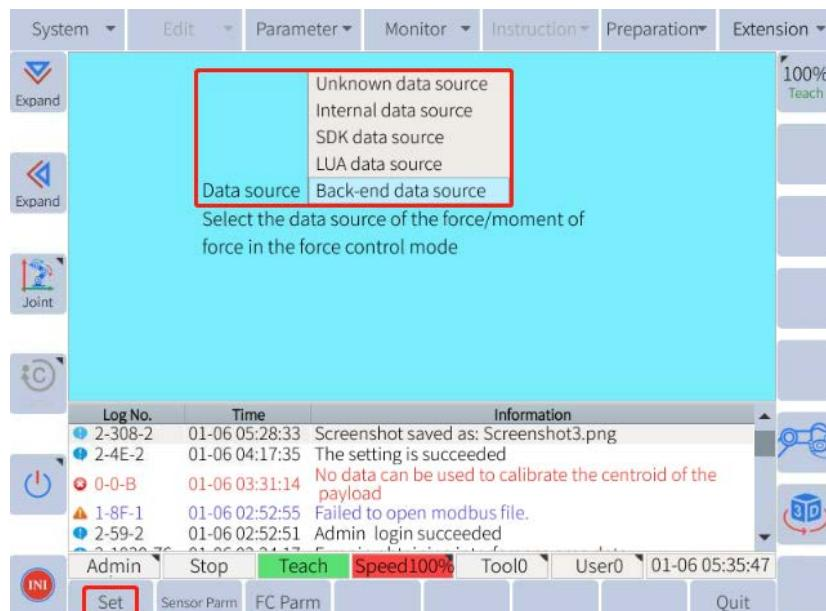

Figure 6-28: Selecting the data source
- Users can click **Extension>Forcecontrol** to select the data source. When selecting "Unknown data source", the force control mode will be disabled. When selecting "Internal data source", it indicates that the internal estimated force/moment of force is used. When selecting "LUA data source", the force control data received by the parsed RS485 communication is transferred via the LUA interface, when selecting "SDK data source", the parsed force control data is transferred via the SDK interface. Users can edit the "Data intervals" (data entry period, unit: ms) and "Tolerance" as required. We recommend to set the product of "Tolerance" and "Data intervals" to 1000. Please note that errors may occur if the actual interval exceeds the product of "Tolerance" and "Data intervals". When selecting “Back-end data source” and clicking the "Set" button, the configuration of the force sensor is complete, as shown in **Figure 6-28**.